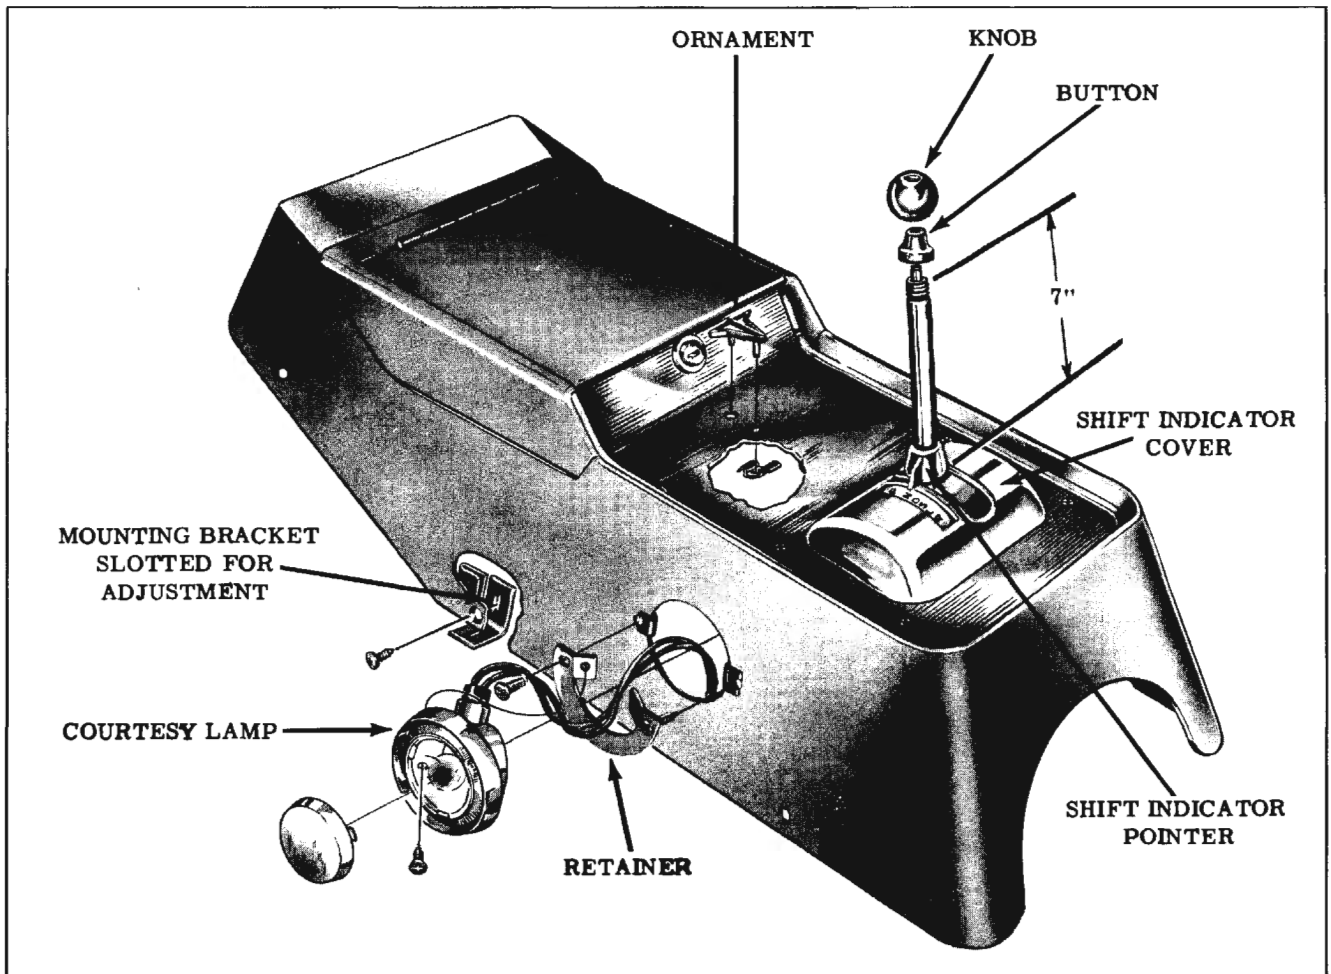

Fig. 13-108 Console Height Adjustment
NOTE: If the mounting brackets are removed from the console, it will be necessary when installing the console to establish a dimension of 7" between the end of the shift lever and the shift indicator cover as shown in Fig. 13-108.
1. Remove shift knob and button. (Fig. 13-108)